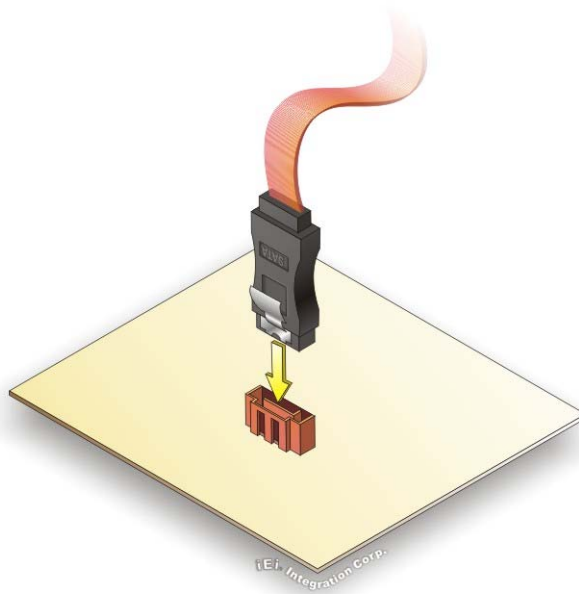

Figure 4-18: SATA Drive Cable Connection
Step 2: **Insert the cable connector.** Insert the cable connector into the on-board SATA drive connector until it clips into place. See **Figure 4-18**.